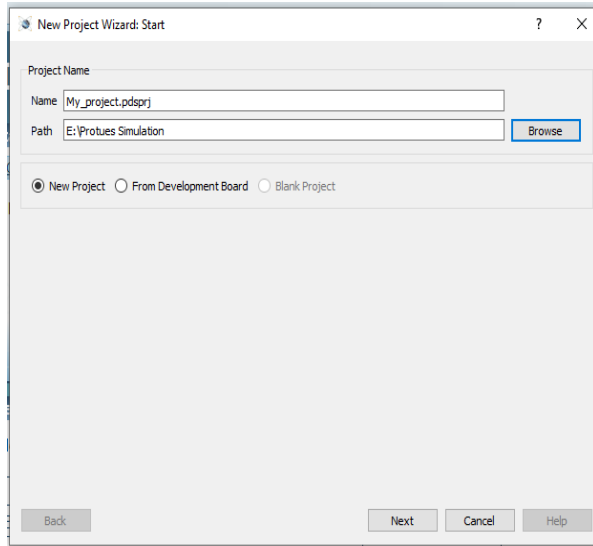

Figure 2: New Project Wizard: Start
Step 3: In the name section type the name you want to give to your project and then click on Next (figure 2).